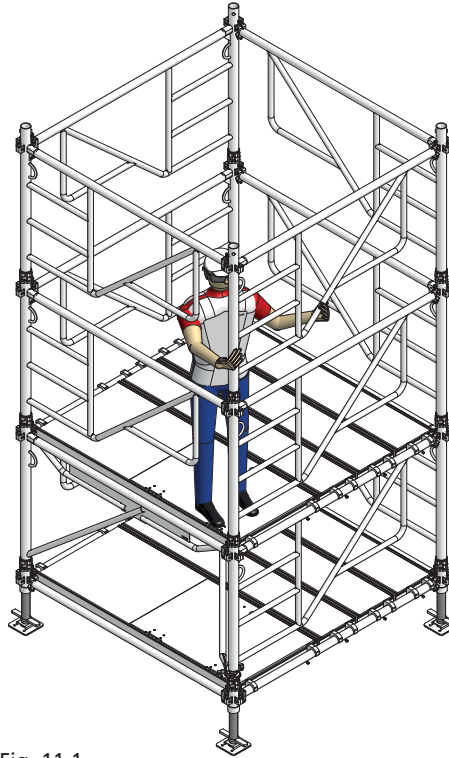

Fig. 11.1
- 14. Standing on the scaffold platform of level 1, install the frames 100 MT for level 3 (Fig. 11.1)